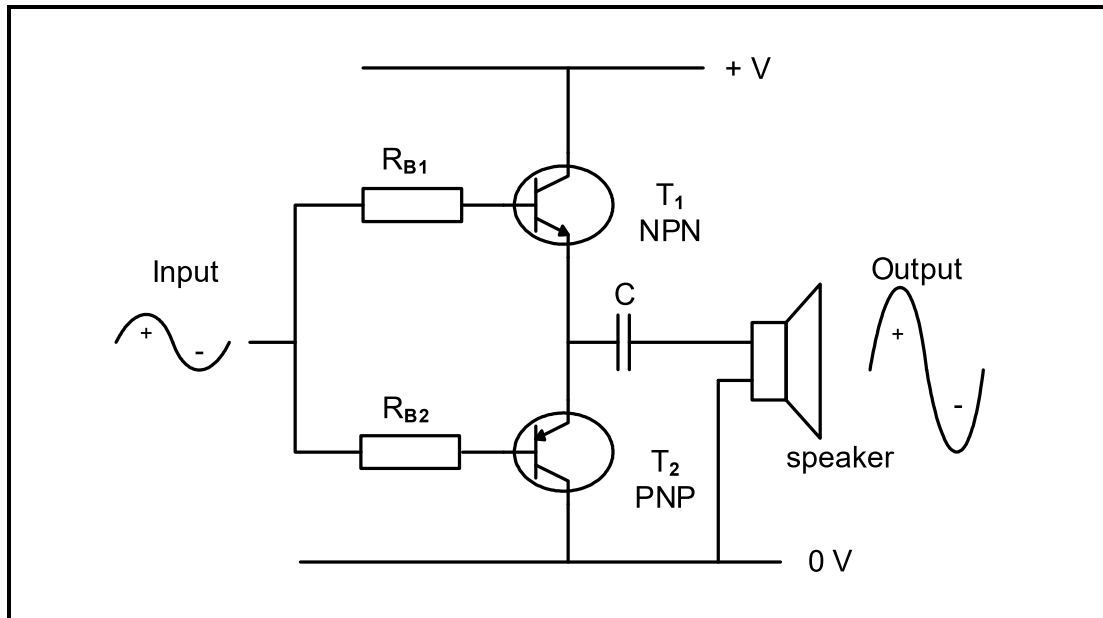

FIGURE 6.7: PUSH-PULL AMPLIFIER
6.7 Refer to FIGURE 6.7 below and answer the questions that follow.
- 6.7.1 Name which other device can be connected in FIGURE 6.7 above in place of the speaker. (1)